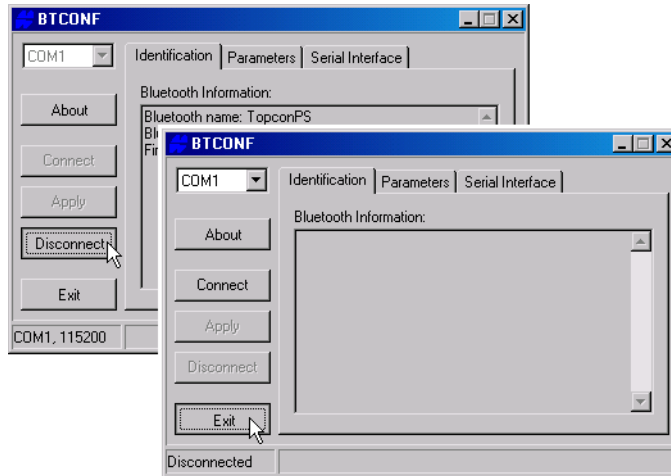

Figure 2-33. Click Disconnect then Exit
9. Click **Disconnect** then **Exit** (Figure 2-33) to quit BTCONF.